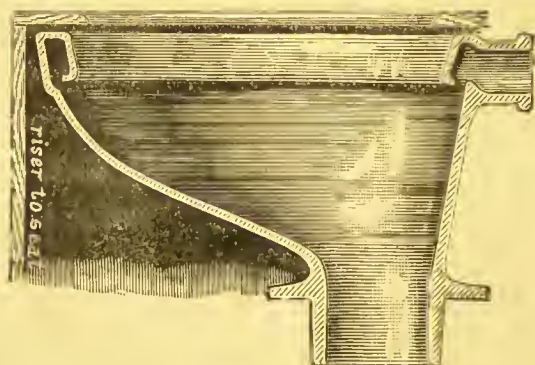

FIG. 25. SECTION.
*Patent "Artisan" \* Water-closet Flushing-rim Basin.*—This is a basin (see Fig. 25, Section), which the writer has specially designed for artisans' dwellings, and places where it is important to have a *simple* and *self-cleansing* water-closet, and where a *valve* water-closet, as Fig. 23, would be too expensive.